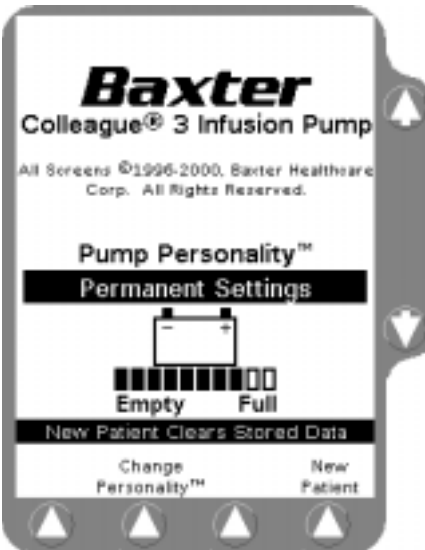
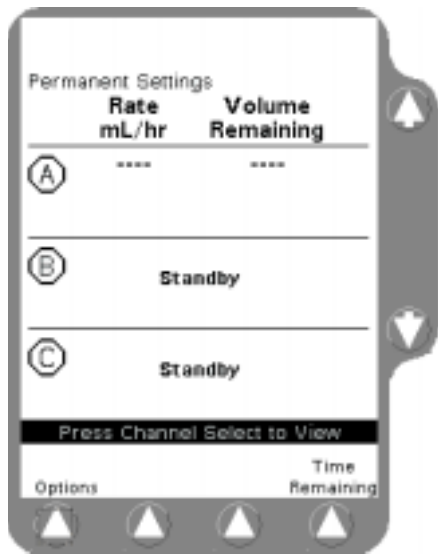

Figure 3-7 Power On Screen After Self-Test
Figure 3-8 Main Display Screen
3. On completion of all self-diagnostic tests, the Power On screen changes to the display shown in Figure 3-7. Channels B and C power off after self-diagnostic tests complete.
- From the Power On Screen After Self-Test (Figure 3-7), press the **Main Display** key (top right of front panel) to view the Main Display screen (Figure 3-8).